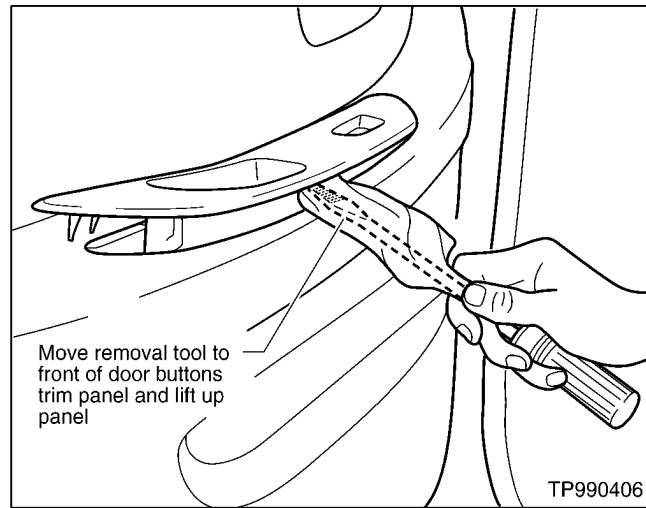

Figure 17
B. Move the removal tool to the front part of the door buttons panel. Lift up the front of the panel (see Figure 17).